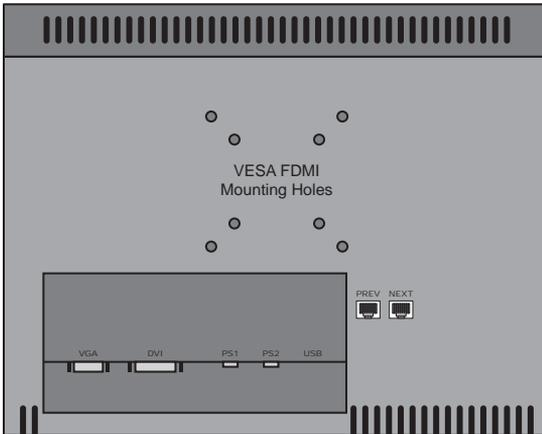

Figure 1 Control Panel to Touchscreen Display Cable Connections
Use the following procedure to connect the Touchscreen Display to the Vision control panel (**Figure 1**):
1. Secure the **Touchscreen Display (Figure 1)** to the **VESA FDMI MIS-D 75 or 50, C Mounting Arm** using the screws provided with the mounting arm and position the display as desired.